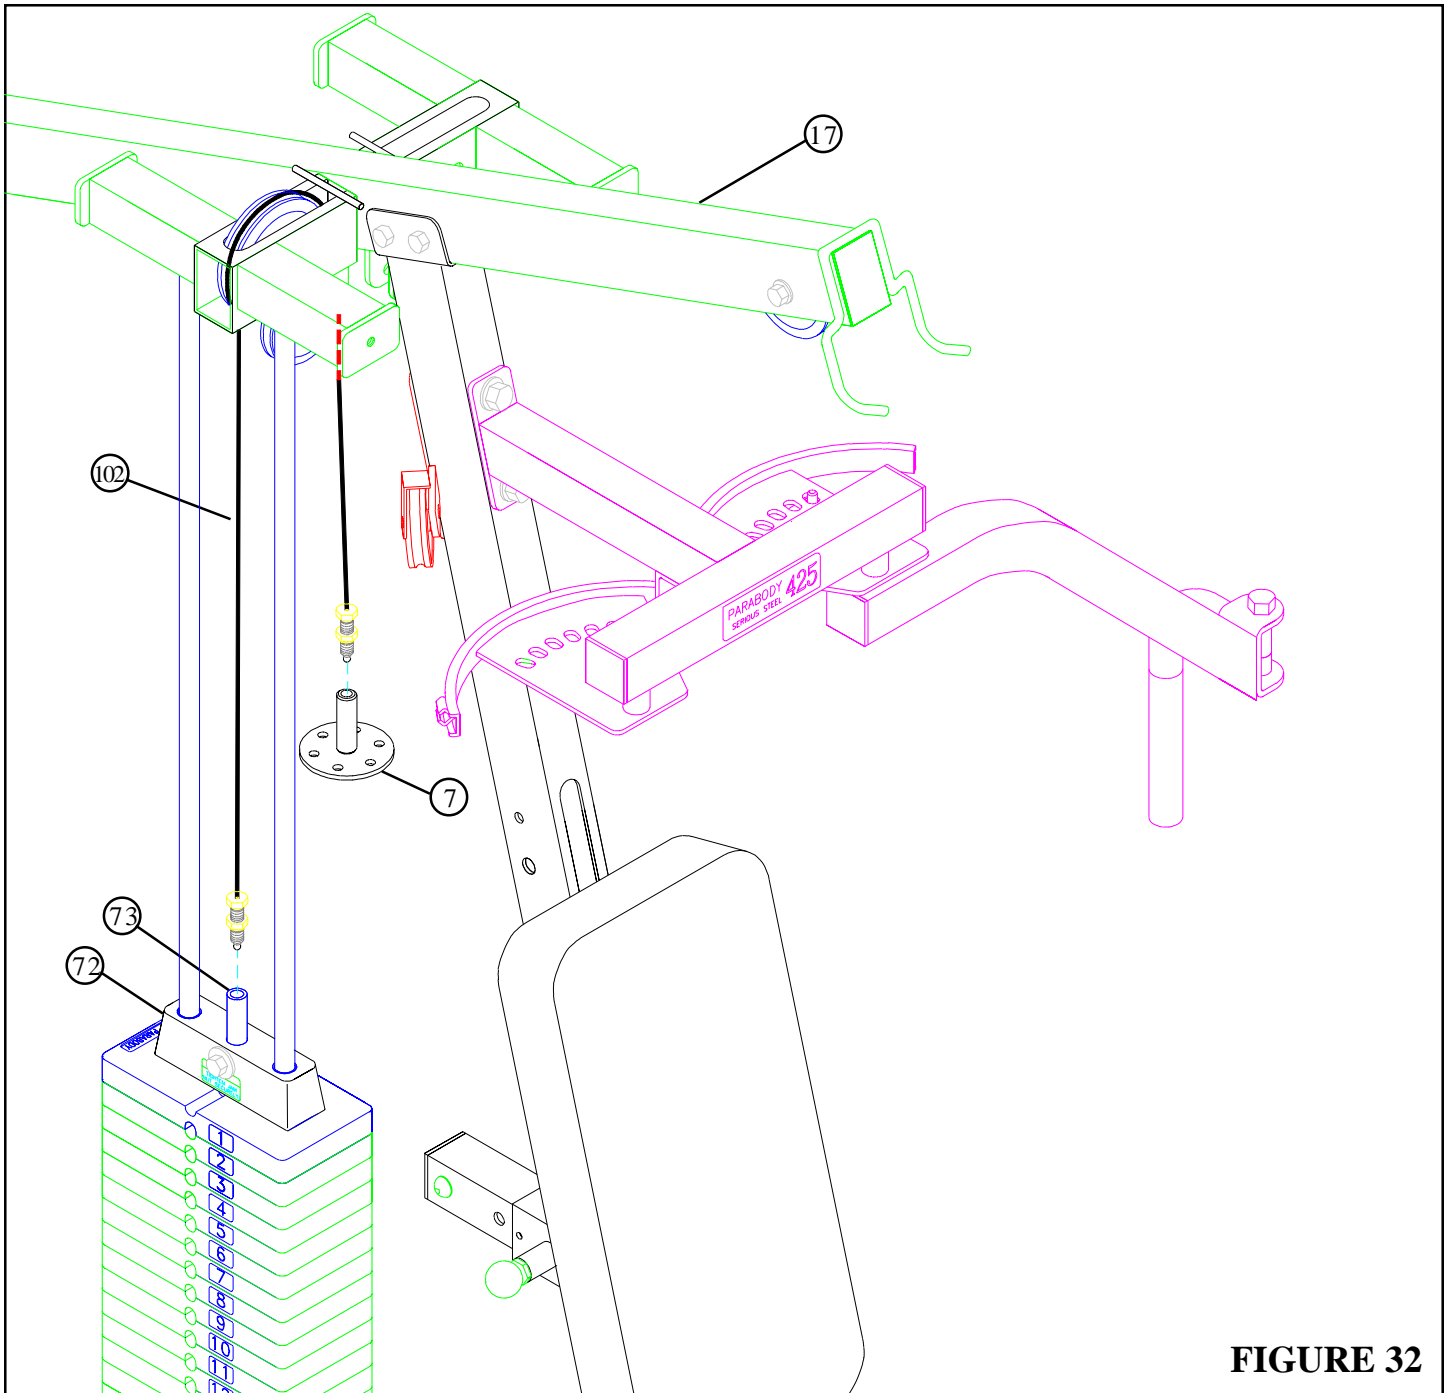

FIGURE 32
- **To assemble the D-RING CABLE (102) follow the cable routing as shown and use the following steps:**
- Screw one of the threaded ends of the D-RING CABLE (102) approximately 1" into the end of the SELECTOR SHAFT (73) of the HEAD PLATE (72) as shown in FIGURE 32.
- Route the CABLE (102) up and over the two PULLEYS in the TOP BOOM (17) above the WEIGHT STACK. **(Remove pulleys for ease of installation.)**
- Screw the other threaded end of the D-RING CABLE (102) approximately 1" into the end of the shaft on the D-RING (7) as shown in FIGURE 32.